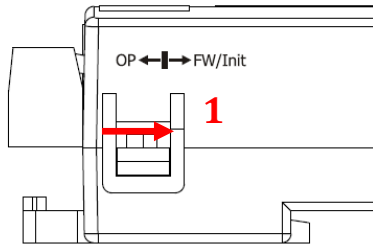

Figure A-1
- (1) Push the DIP switch to the location of “FW/Init” (Figure A-1) and power cycle the IR-712-MTCP.